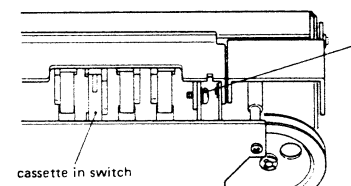

Fig. 5-2 Holder adj. screw (ホルダー調整ネジ)
2. If the clearance A is not within the 0.5 - 1.3 mm range, adjust it with screw B. (Fig. 5-2 shows the upper left part of the transport as seen from behind. There is a similar holder adj. screw in the upper right part.)
(図5-2はトランスポート左上部を背面から見た図です。右上部にも同様の調整ネジがあります)。